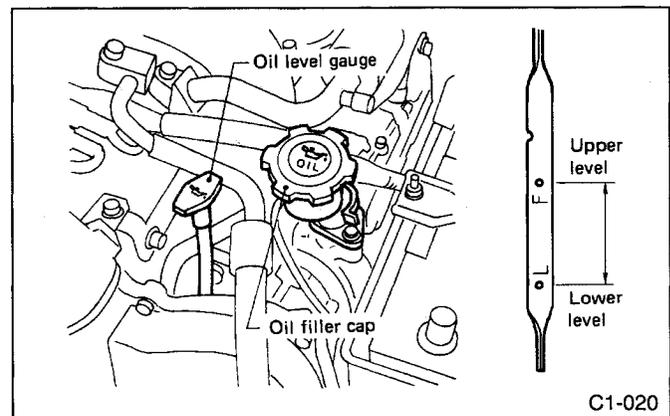

Fig. 2
- 4) Remove level gauge again, and check to ensure that oil level is between F and L marks on gauge rod. If the engine oil level is below the "L" line, add oil to bring the level up to the "F" line (Fig.2).